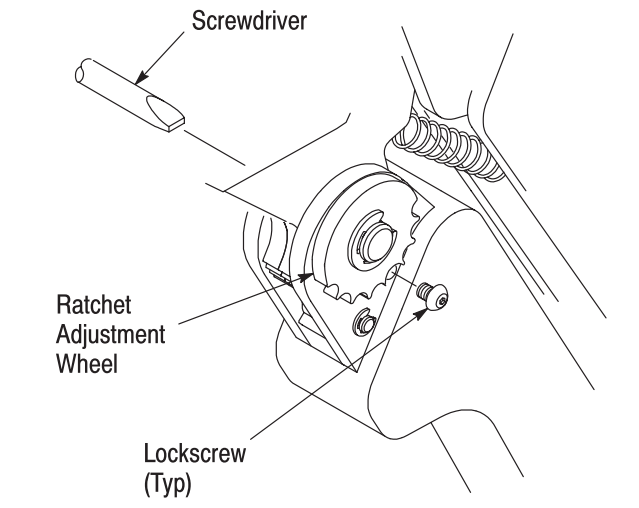

Figure 6
6. RATCHET ADJUSTMENT (Figure 6)